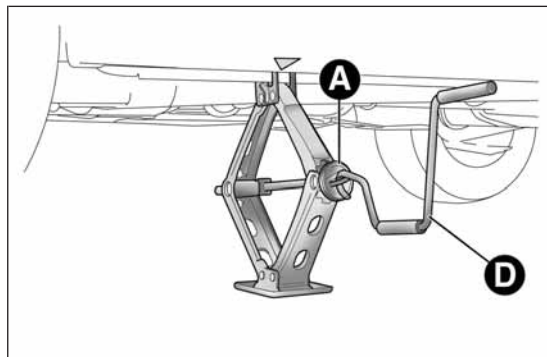
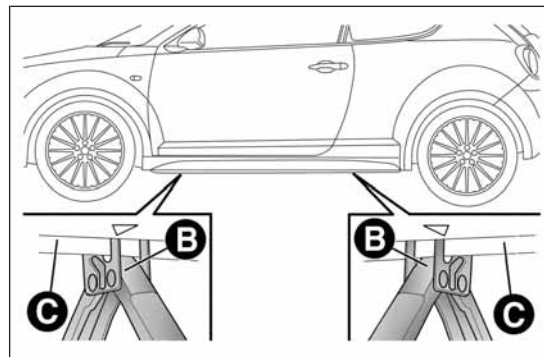

fig. 121
fig. 122
- ☐ operate the device A fig. 121 so as to extend the jack, until the upper part B fig. 122 is inserted correctly inside the side member C;
- ❑ fit handle D fig. 121 into the housing in device A, operate the jack and raise the car until the wheel is a few centimetres from the ground;
- ❑ operate the jack handle D fig. 121 to lower the vehicle. Then extract the jack;